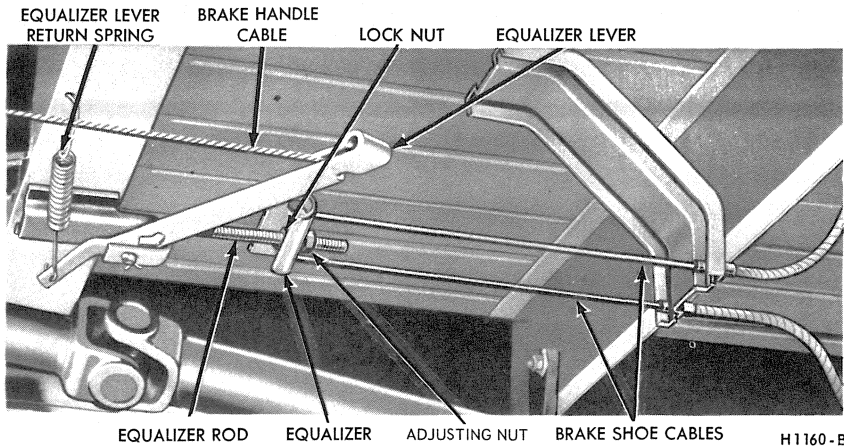

FIG. 16—Parking Brake Linkage
1. Push the equalizer lever slightly forward, and disconnect the ball end of the cable from the lever (Fig. 16).
3. Push the equalizer lever slightly forward, and insert the ball end of the cable in the slot on the equalizer lever (Fig. 16).
3. Loosen the adjusting nut on the equalizer rod, and disconnect the cable from the equalizer (Figs. 16 and 17).